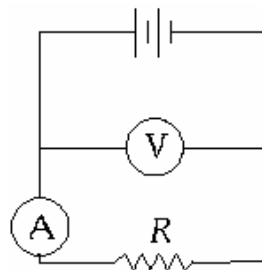

Figure 6: Voltmeter-Ammeter measurement – Circuit 2
With the voltmeter connected to include the resistor and the ammeter, as in Figure 6, the ammeter reads the desired current through the resistor. However, the voltmeter reads the voltage across both the resistor and the ammeter in *series*. If the resistance of the ammeter is R_a , then
19. Next, connect the voltmeter in parallel across the series combination of the resistor *and* the ammeter, as shown in Figure 6.